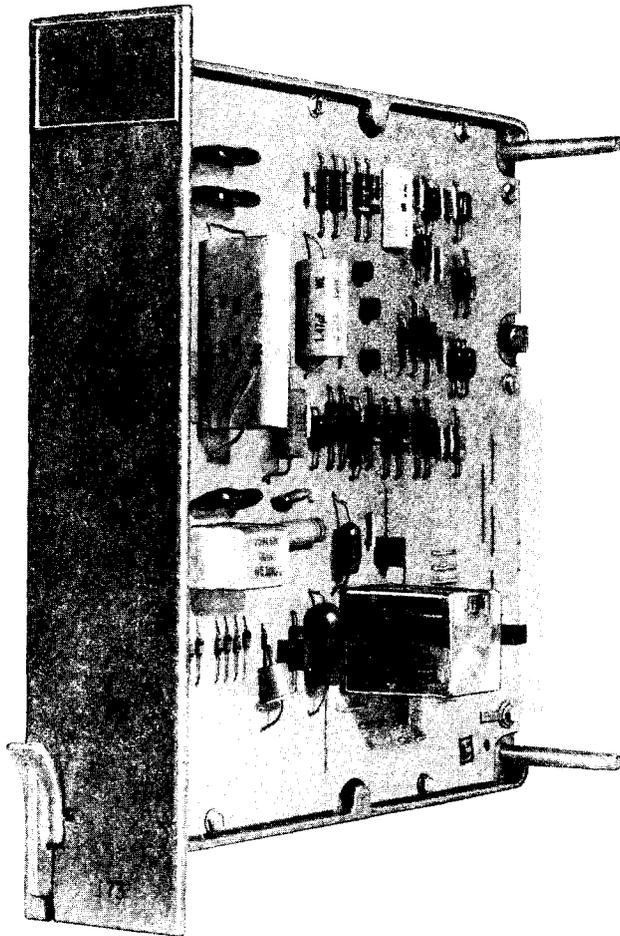

Fig. 1—Loop Signaling Extender J99343CA (Mfg. Disc.)
1.05 All LSE units are approximately 1-11/16 inches wide by 7-7/8 inches high by 9 inches deep. They are composed of circuit components mounted on a printed wiring board which is attached to a rigid frame made of polycarbonate or die-cast aluminum. See Fig. 1, 2, and 3 for pictures of the J99343CA LSE (Mfg. Disc.), J99343CB LSE plus TD (Mfg. Disc.), and J99343CD LSE II, respectively.